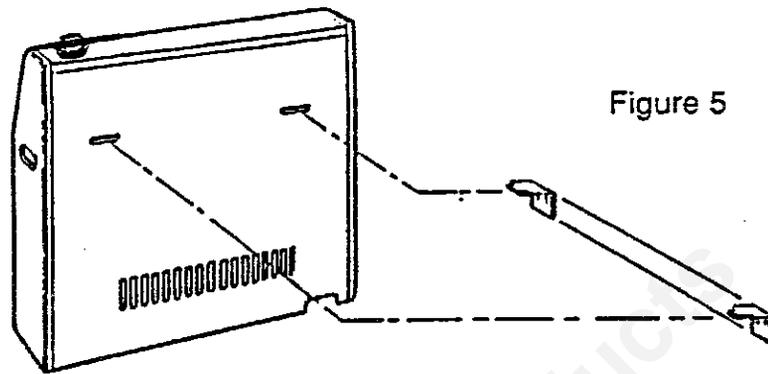

Figure 5
2. After mounting brackets are installed hang heater on mounting brackets in holes provided at the rear of heater. (see Figure 5)